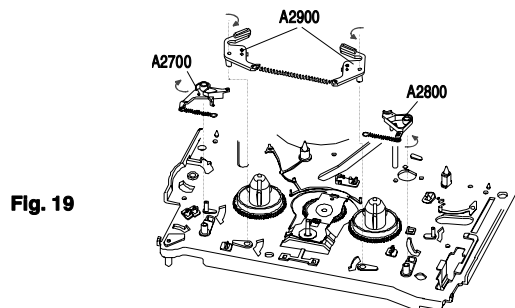

Fig. 19
- Turn the reel brakes (Pos. A2900, Fig. 19) in the direction of the arrows and take them out.
- Unhook the brake springs (Pos. A2700 / A2800, Fig. 19).
- Turn the brakes (Pos. A2700 / A2800, Fig. 19) in the direction of the arrows and remove them.